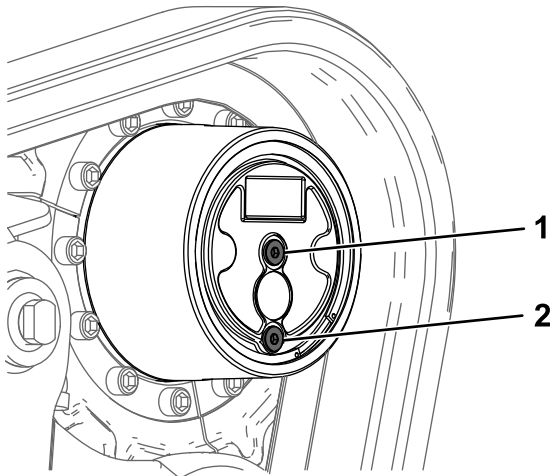

Figure 60
2. Park the machine on a level surface so that the drain plug is in the 6 o'clock position (Figure 60), engage the parking brake, and lower the loader arms.
5. Remove the check plug and the drain plug and allow the gear lubricant to drain (Figure 60).
6. Install the drain plug (Figure 60).